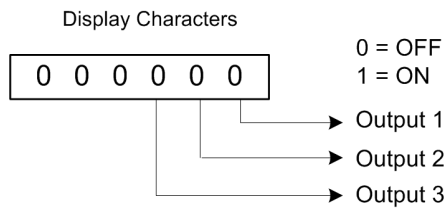

Figure 17: Relay Output Test Display
2.	Press the ► RIGHT ARROW key and the display will show the status of relay outputs. See Figure 17.